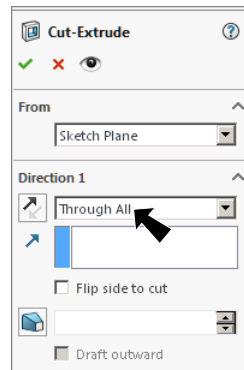

Fig. 17
Step 10. In the Cut-Extrude Property Manager set: under Direction 1, **Fig. 17**